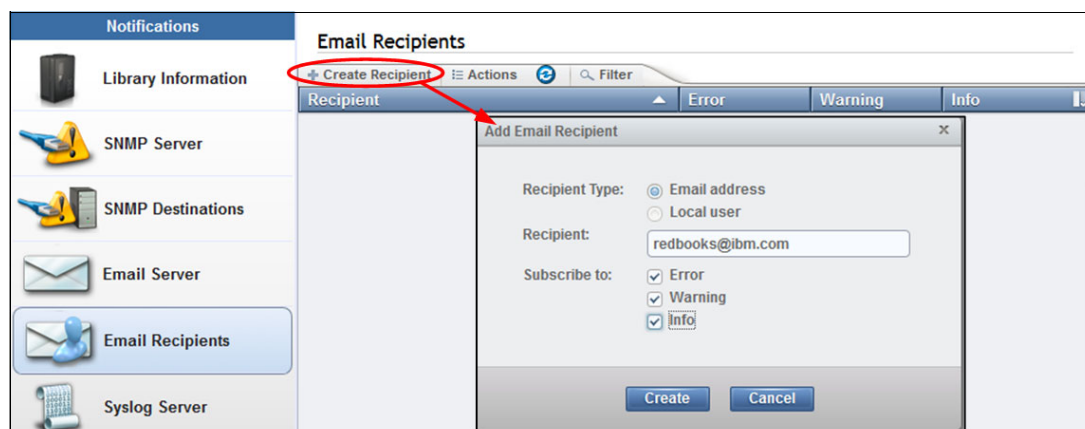

Figure 4-30 Email Recipients option
2. Select the **Create Recipient** tab, as shown in Figure 4-30.